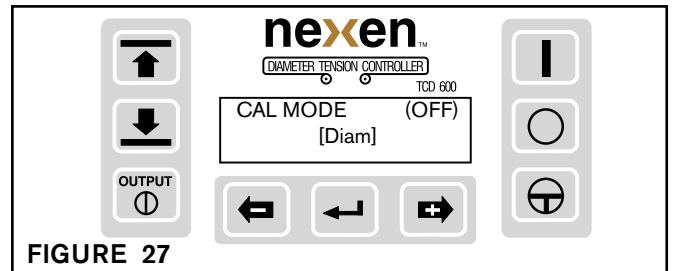

FIGURE 27
- Diam will appear in the display (See Figure 27). Press Enter.